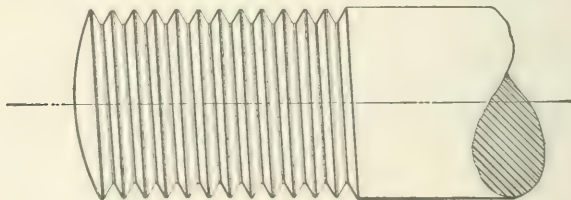

FIG. 42.
93. In machine construction, screws are used more frequently as fastening devices than as a means of transmitting motion or producing pressure. Screws used as fastening devices may be divided into two general classes, which are distinguishable from each other by the form of thread used: (1) *Metal screws*, or screws intended to be screwed into metals. (2) *Wood screws*, or screws intended for wood.
94. Metal screws have either a sharp V thread or the United States standard thread shown in Fig. 42. In the